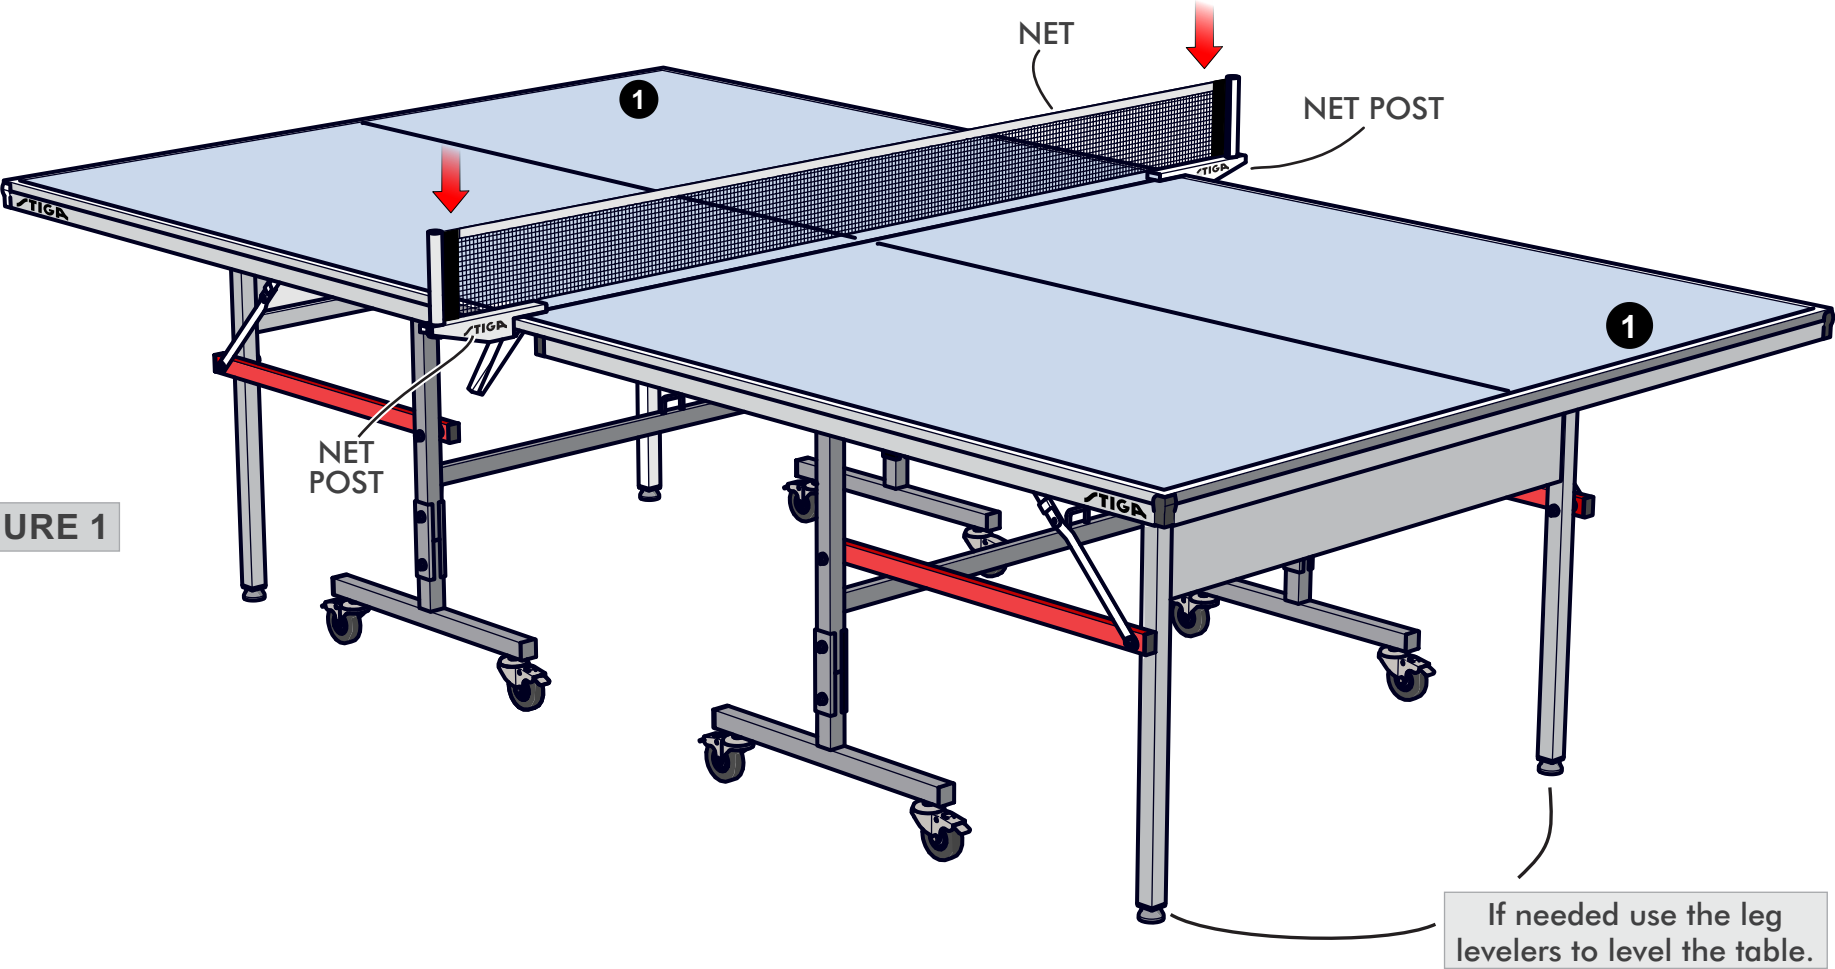

FIGURE 1
- 8. Attach **Net posts** to the middle of the table where the table halves meet. See **Figure 1**.